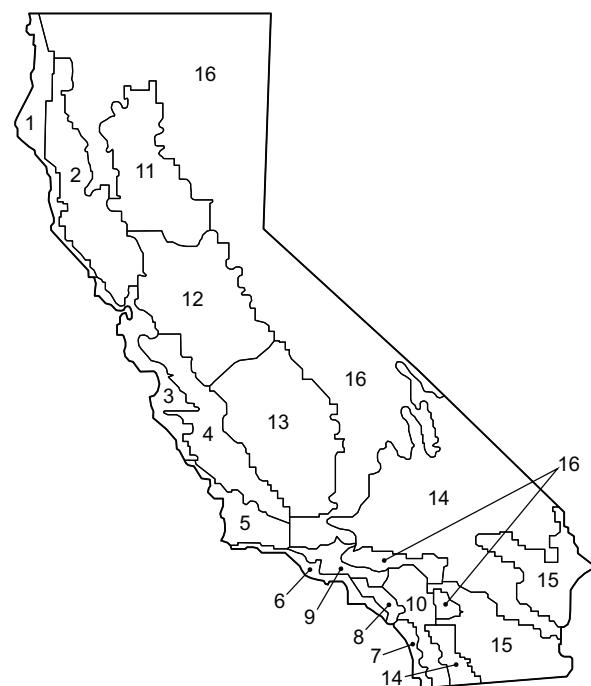

Fig. 79 — California Title 24 Zones
- Refer to Fig. 79 for map of California Title 24 zones.